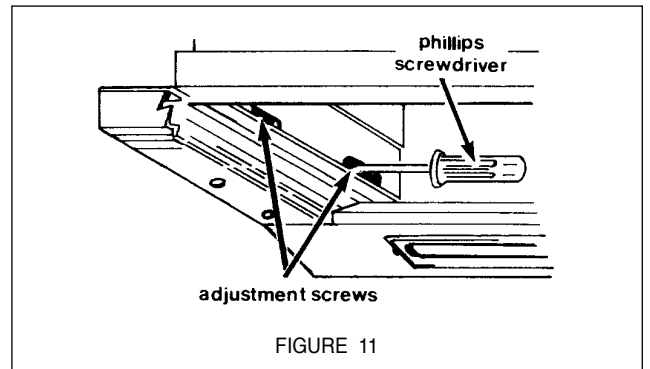

FIGURE 11
7. Adjust the rangehood front strip if necessary. The mounting system is designed to facilitate proper alignment between the cabinet and rangehood. The front strip and frame of the rangehood will adjust up to 3/8" up or down and up to 3/4" front to back. Do not adjust more than the specified amount. Two adjustment screws are located on each side of the rangehood as indicated in FIGURE 11. Using a Phillips head screwdriver, turn screws counterclockwise to loosen. Once the front strip is adjusted, retighten the screws.